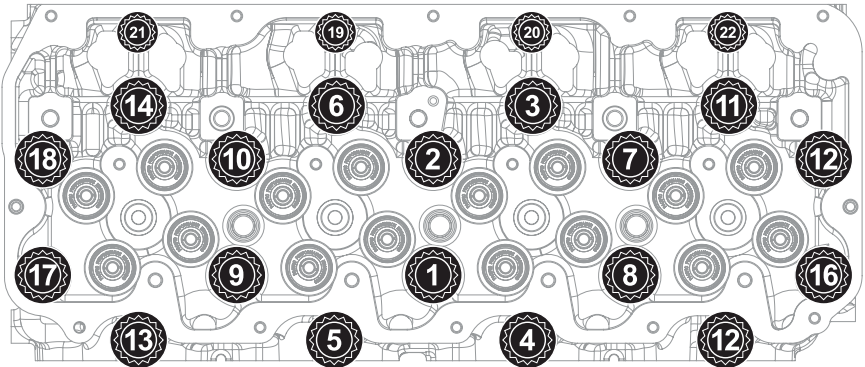

Fig.1
4. Follow manufacturer's recommended torque sequence (**Fig.1**). Tighten in four equal steps to the following specification: